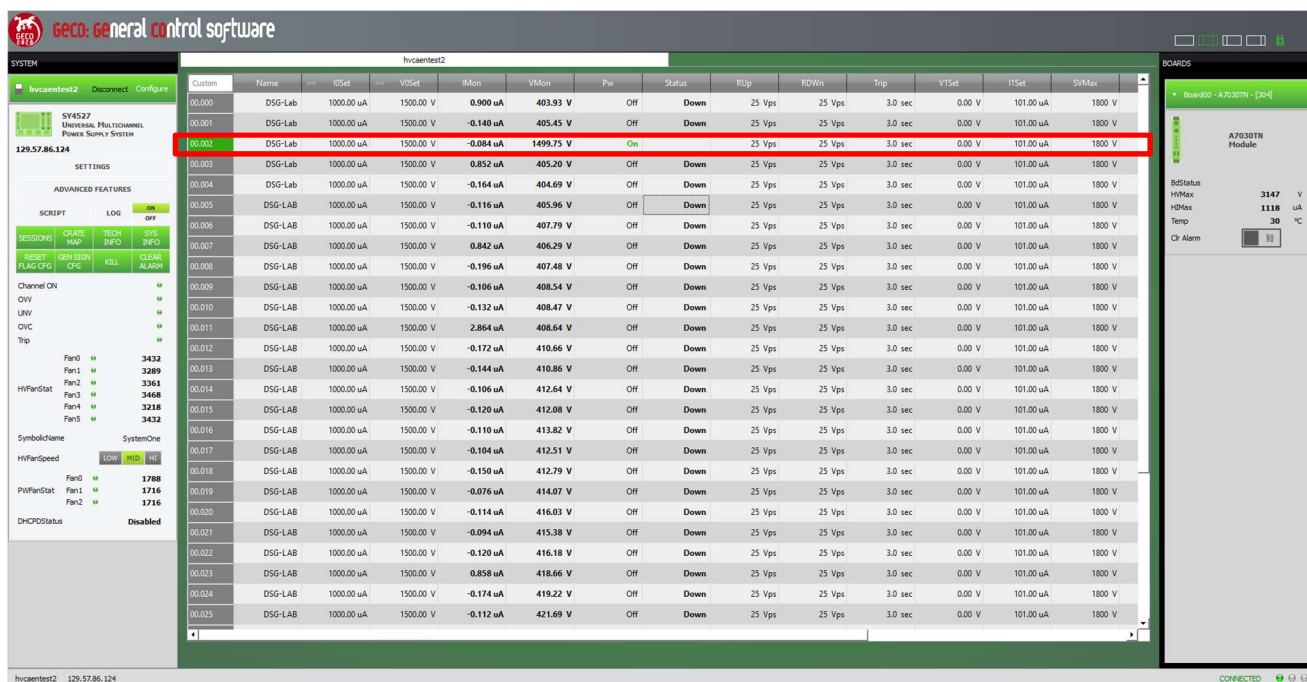
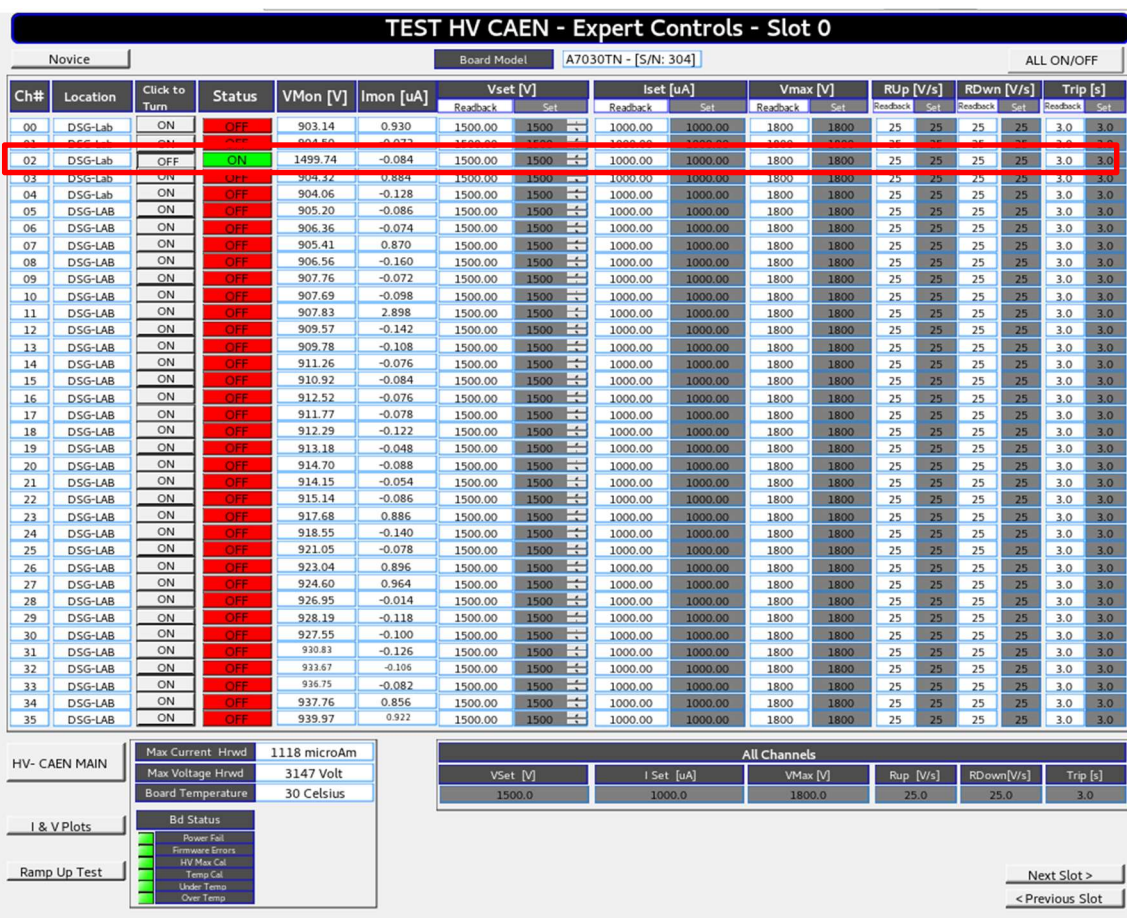

Fig.11 — GECCO2020 screenshot shows channel 2 stayed on after all channels were set to turn off from the JavaScript at CSS screen.
Fig.12 — Expert Controls CSS-BOY screen shows channel 02 on status after all channels were set to turn off simultaneously
- 2.2. Verified that nether PV and GECO values went to set point. See fig.11 and fig.12.